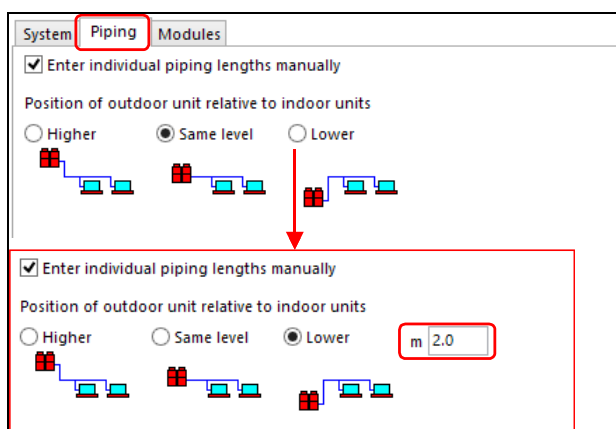

Figure 46: Defining the height difference between outdoor unit and indoor units
1. Clicking on the “**Piping**” tab displays the data as shown in Figure 46:
2. Clicking on the “**Modules**” tab displays the data as shown in Figure 46:
Small systems have outdoor units consisting of a single module, where larger systems combine modules. The top left of Figure 46 shows an outdoor unit model 40 consisting of three modules: a model 18, a model 12 and a model 10. If for some reason, you decide not to allow a model 12 module, you uncheck it. VRV\_Xpress will then look for outdoor units using a different kind of module combinations. This may lead to larger outdoor unit, as shown at the bottom left of Figure 46.